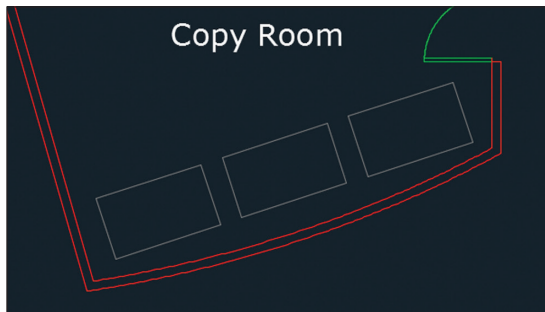

FIGURE 4.25 Offsetting and filleting walls
3. Type F (for Fillet), press Enter, and click the new elliptical arc and the inner line of the adjacent vertical wall on the right. Press the spacebar to repeat the FILLET command and click the elliptical arc and inner line of the adjacent vertical wall on the left. The intersections between the wall objects are cleaned up (see Figure 4.25).